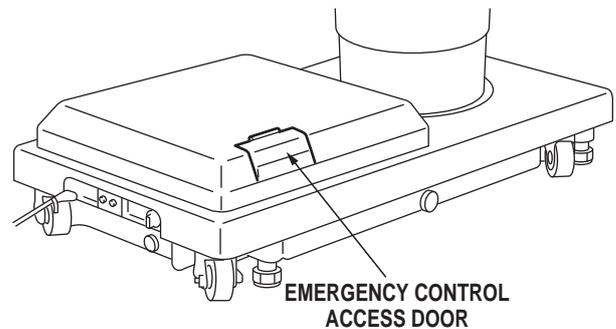

Figure 2-15. Emergency Controls Location
a. The emergency back-up control switches are located under the access door on the service access cover in the table base. See figure 2-15.